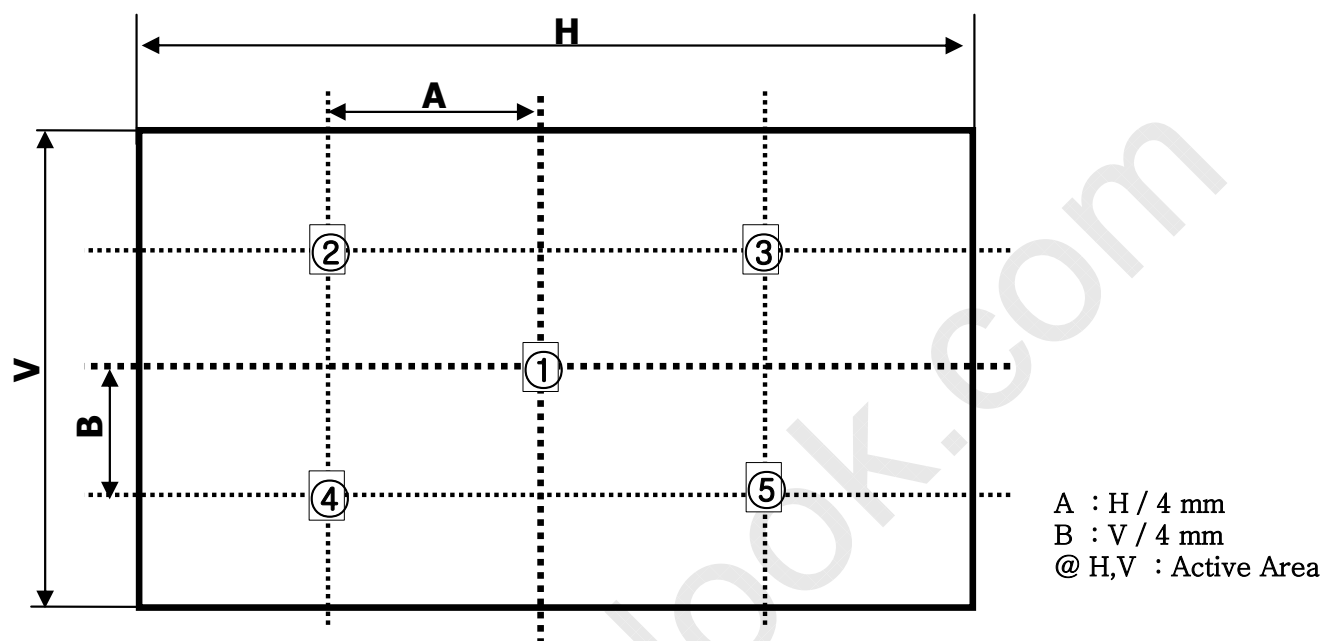

FIG. 2 Measure Point for Luminance
n = the Position number(1, 2, 3, 4, 5). For more information, see FIG 2.
2. Surface luminance is determined after the unit has been 'ON' and 1Hour after lighting the backlight in a dark environment at  $25 \pm 2^\circ\text{C}$ . Surface luminance is the luminance value at center 1-point across the LCD surface 50cm from the surface with all pixels displaying white. For more information see the FIG. 2.
For more information, see the FIG. 2.